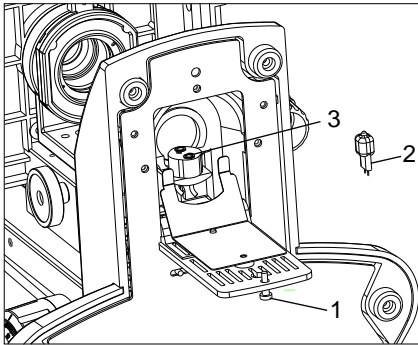

Fig. 11
1. Pull the lock knob (1) on the bottom to open lamp housing door (fig.11).
2. Hold the halogen bulb (2) without taking it out of the polyethylene bag so as not to taint the bulb with fingerprints and push the bulb into the pin holes on the ocket (3). After attaching, remove the polyethylene bag.